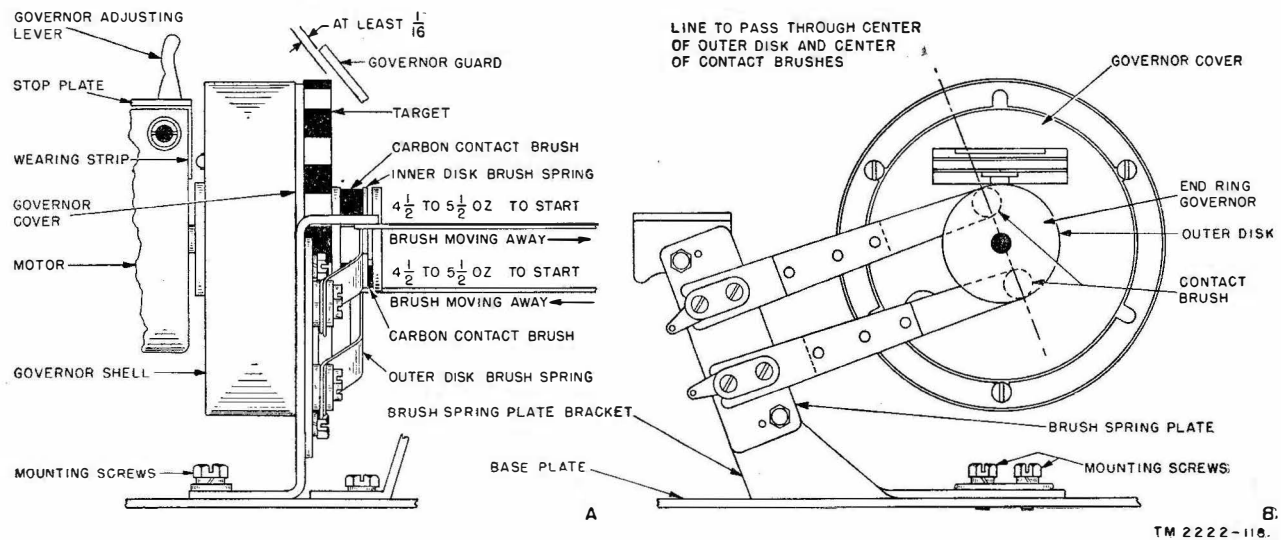

Figure 74. End-ring governor requirements.
(A, fig. 74)
### 130. Governor Shims (fig. 74)
c. ADJUSTMENT. Increase or decrease the number of shims on the armature shaft between the governor hub and the end frame casting of the motor (A, fig. 74).
a. PREPARATION. Remove the governor guard, the brush-spring plate, and the governor cover (fig. 74).
- (1) The distance from the inner surface of the governor cover to the highest point on the contact springs should be  $2\frac{5}{32}$  to  $2\frac{7}{32}$  inch.
- (2) Place a D socket wrench over the nut located in the center of the governor cover. Measure the radial distance from the vertical surface of the wrench to the point where the scale touches the curved surface of the inner disk contact spring; use a 6-inch scale. This distance should measure  $1\frac{7}{32}$  to  $1\frac{9}{32}$  inch.
- (3) Measure the distance from the wrench to a point of contact on the outer disk contact spring in the same manner as prescribed in (2) above. This distance should measure  $\frac{7}{16}$  to  $\frac{1}{2}$  inch.
### 132. Governor Brush-spring Plate Bracket (fig. 74)
- (1) A line through the center of the outer disk should pass through the center of each carbon contact brush (B, fig. 74).
- (2) The surface of the brush-spring plate bracket on which the brush-spring plate is mounted should be in line with the outer surface of that part of the governor cover on which the target is mounted (A, fig. 74).
- (3) The brush-spring plate bracket should be parallel to the edge of the motor base plate.
### 133. Governor Brush-spring Pressure (fig. 74)
### 134. Governor Guard (A, fig. 74)